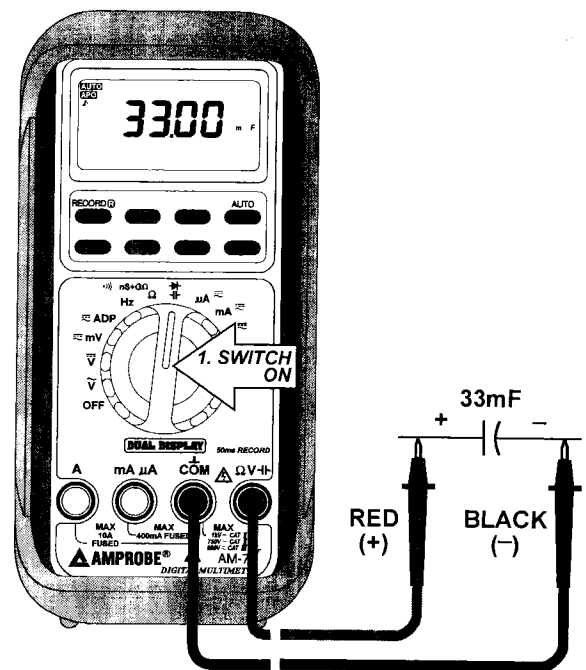

FIG 10. $\text{--}\text{||}\text{--}$ CAPACITANCE FUNCTION
- 3) Connect the test leads as shown in FIG 10 and observe the digital display